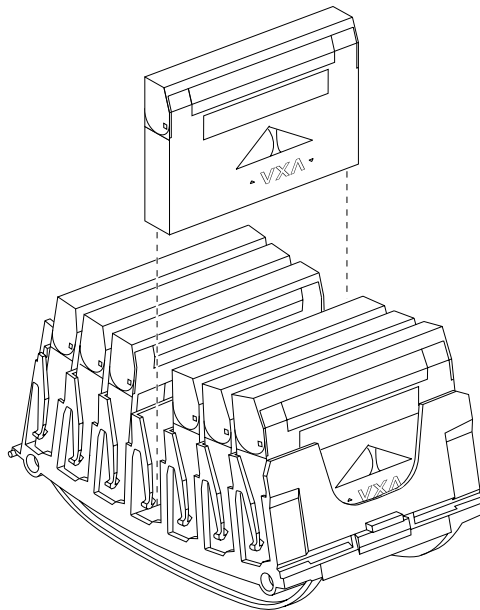

Figure 2-4 Installing cartridges in the magazine
3. Place the magazine on its back with the cartridge slots facing up. Orient the cartridges as shown in **Figure 2-4**.
Avoid touching or opening the cartridge dust cover when handling the cartridges. Make sure the cartridge is inserted as shown in Figure 2-4, or you may damage the magazine when you place it into the autoloader.